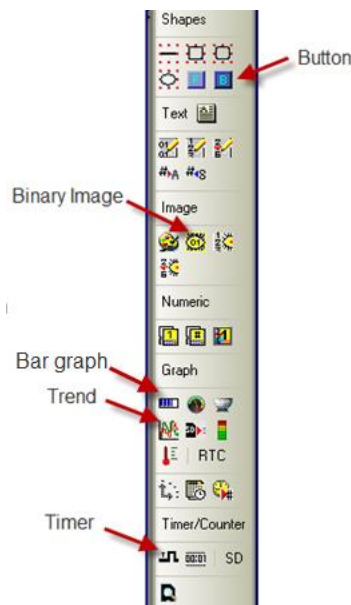

Figure 3- HMI Tool Bar
Step 3: Select **Binary image** icon from the HMI Tool Bar (Figure 3). Then click, hold, and drag a rectangle on the top left of your screen, shown below.
Step 1: Select the **Timer** icon from the HMI Tool Bar (Figure 3). Click, hold, and drag a rectangle under the lamp in the space shown below.